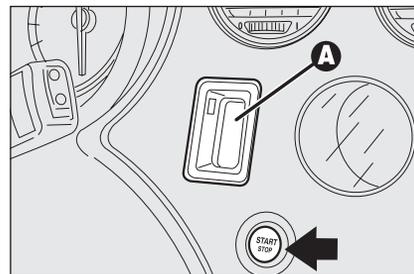

fig. 15
- ❑ electronic key reading device **A-fig. 15** (set near the steering wheel);